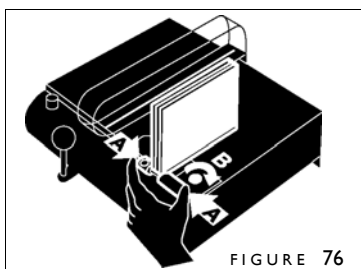

FIGURE 76
2. After it has cooled, place your bound book block between the Book Thickness Rings (Figure 76). Push the two rings together (A) and tighten the Book Thickness Locking Knob (B). Remove your book block.